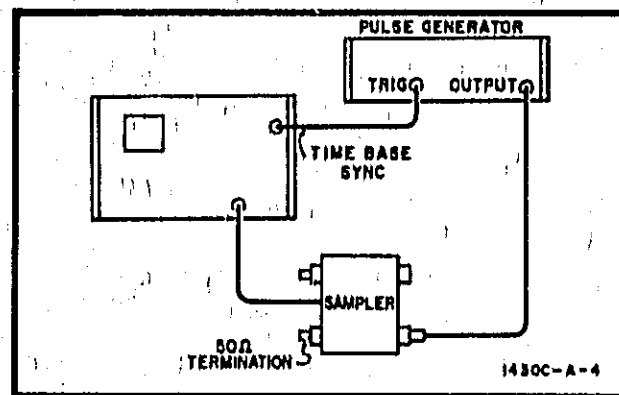

Figure 5-2. Dynamic Range Test Setup
- Connect equipment as shown in figure 5-2.
- a. Connect equipment as shown in figure 5-2.